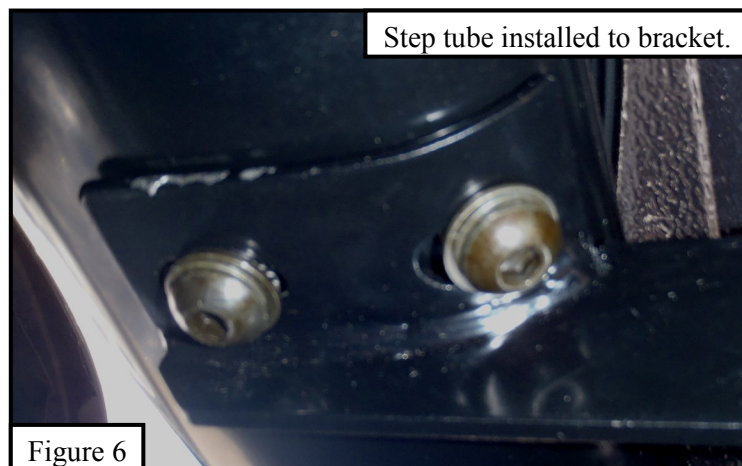

Figure 6
8. Take the drivers side step bar (Item 1) and place it on the mounting cradles and align the mounting holes. Attach using (6) M10 button head cap screws (Item 8), (6) M10 toothed lock washers (Item 9), and (6) M10 flat washers (Item 10) . See **Figure 6** **Note:** The drivers side step tube will be packaged in a clear poly tube and the passenger side will be packaged in a red poly tube, the Westin logo should face outward when installed.